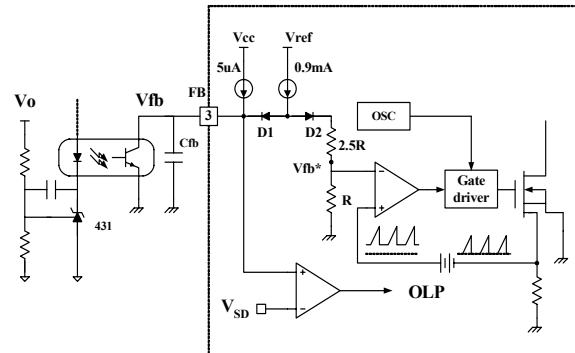

Figure 5. Pulse width modulation (PWM) circuit
2. Feedback Control : The FSDx0365RNB employs current mode control, shown in figure 5. An opto-coupler (such as the H11A817A) and shunt regulator (such as the KA431) are typically used to implement the feedback network. Comparing the feedback voltage with the voltage across the Rsense resistor plus an offset voltage makes it possible to control the switching duty cycle. When the reference pin voltage of the KA431 exceeds the internal reference voltage of 2.5V, the H11A817A LED current increases, thus pulling down the feedback voltage and reducing the duty cycle. This event typically happens when the input voltage is increased or the output load is decreased.